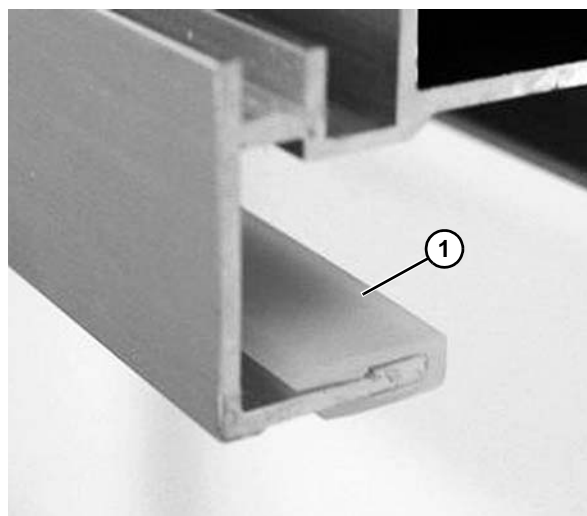

Figure 31
3. Make sure the slide rail (Figure 31, item 1) is properly mounted and snaps onto the beam. The longer flange of the slide rail must always face inside of the beam (See Figure 32).